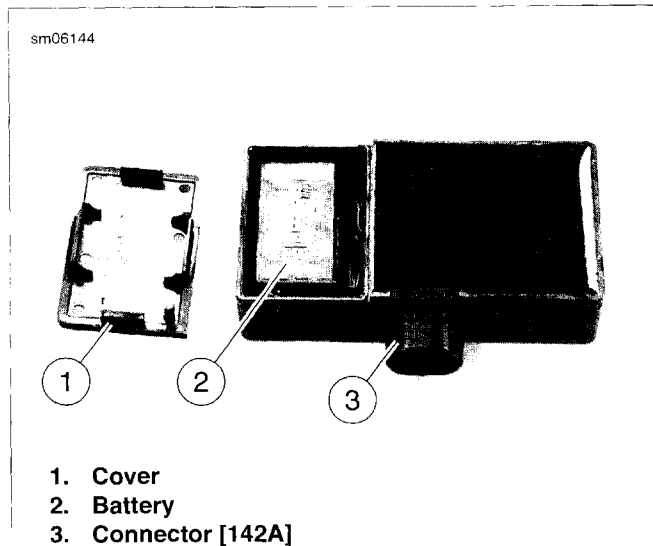
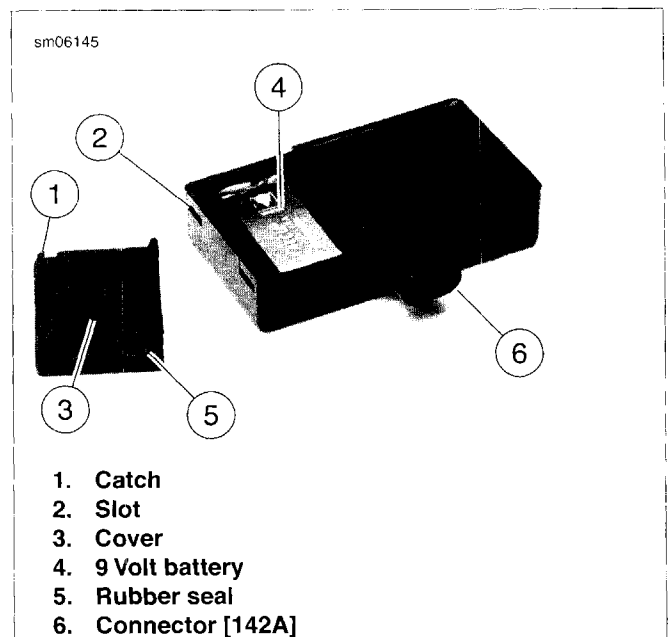

Figure 6-118. Siren Battery Compartment (Early Style Siren)
Figure 6-119. Siren Battery Compartment (Late Style Siren)
- See Figure 6-118 and Figure 6-119. Early style siren will work with both TSSM and HFSM. Late style siren will only work with HFSM.
2. See Figure 6-118. Remove battery cover.
2. See Figure 6-119. With a small screwdriver or pick, push the catches (1) in through the two slots (2) in the end of the siren to release the battery cover (3).